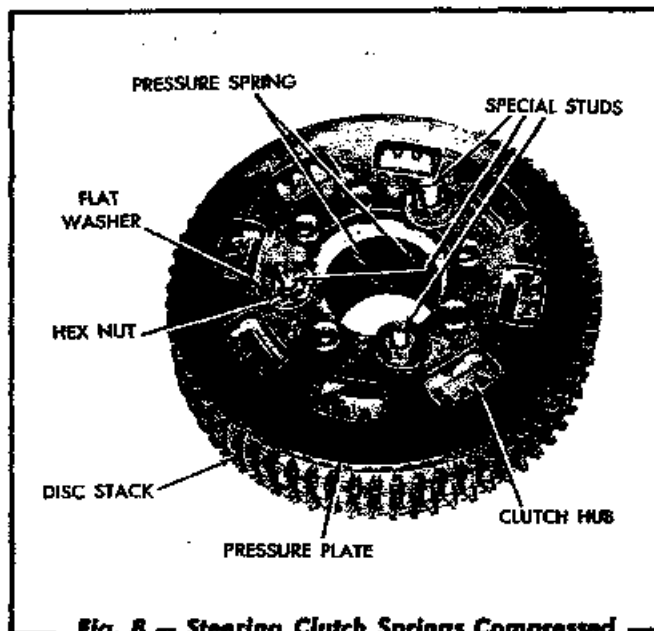

Fig. 8 - Steering Clutch Springs Compressed to Remove Cap screws
4. Refer to Fig. 8, remove the locking wires and three of the eight throwout plate cap screws, install the three special studs with the NC threaded end into the throwout plate, and install flat washers and hex nuts on the NF threaded end of the studs. Screw the nuts down tightly against the pressure plate until the tension of the springs is held by the three studs.